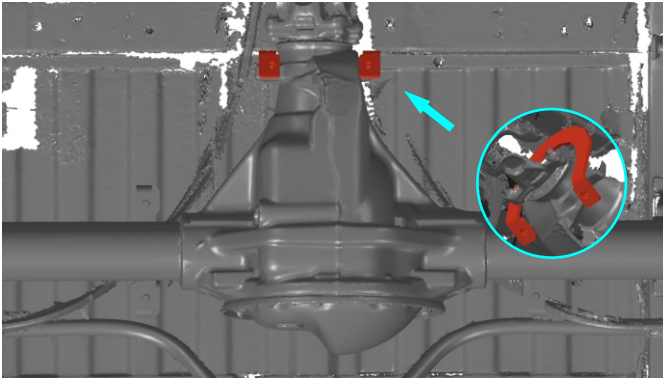

Fig. 3
3. Install front bracket (item 4) as shown in fig.3.